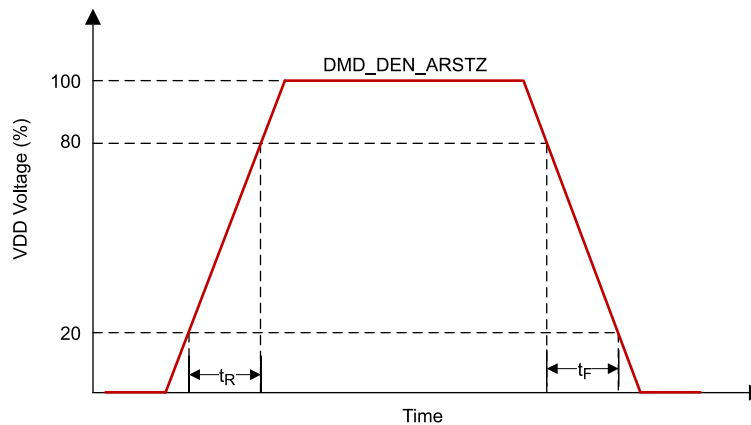

图 6-2. LPSDR Input Rise and Fall Slew Rate
- (1) Specification is for DMD_DEN_ARSTZ pin. Refer to LPSDR input rise and fall slew rate in 图 6-2